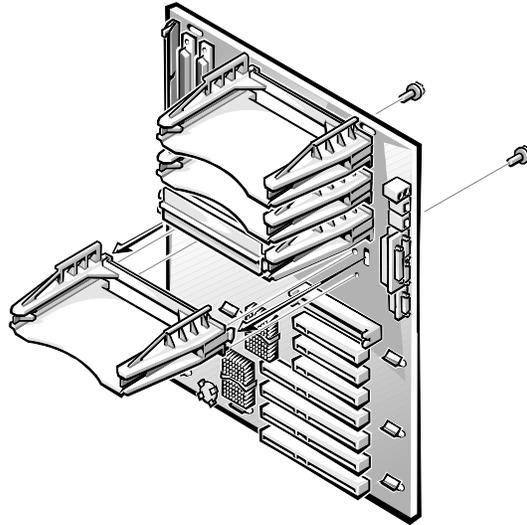

Figure 4-28. Guide-Bracket Assembly Removal
- 4. From the underside of the system board, use a T25 Torx driver to remove the screws at each end of the bracket(s) (see Figure 4-28).**